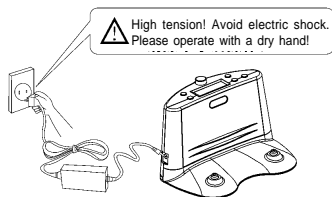

Figure 2
04. Connect the output plug of the adapter to the Power socket of the Dock Station. (See figure 2)